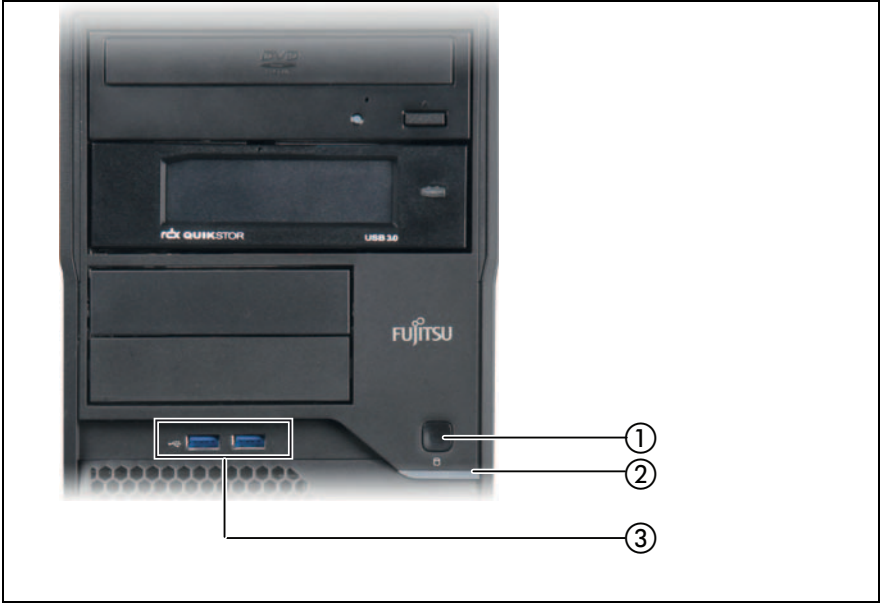

Figure 5: Front panel
Two additional USB 3.0 connectors are located on the front of the server (see figure figure 5 on page 48).
- ▶ Press the On/Off button (see item 1 in figure 5 on page 48).